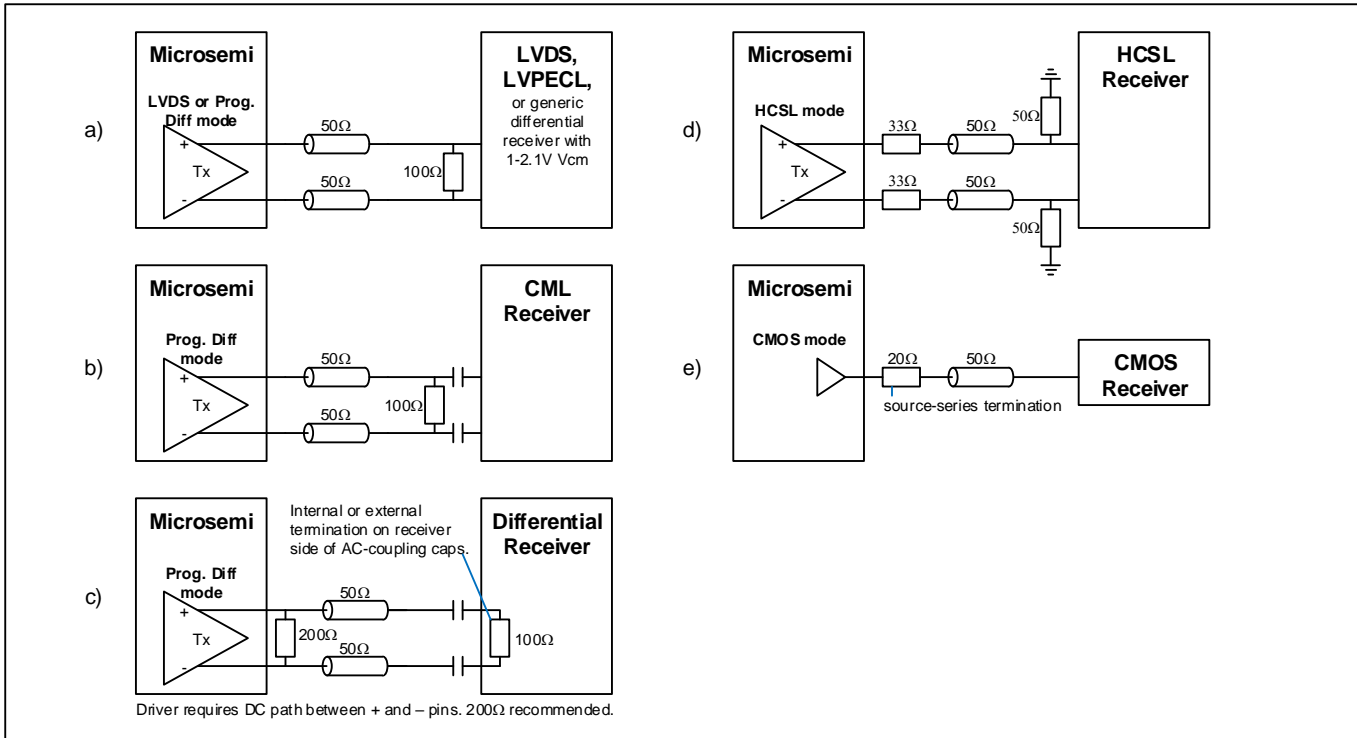

Figure 16 - Example External Components for Output Signals
**Note 1:** OCxCR2.OCsF=0001 (LVDS). Output must have 100Ω DC path between OUTxP and OUTxN to meet these  $V_{OD}$  specs. See Figure 16 parts a) and b) for examples where this DC path is a 100Ω termination resistor at the receiver
**Note 1:** OCxCR2.OCSF=0010, OCxDIFF.VCM=1100, OCxDIFF.VOD=0101. Output must have 100Ω DC path between OUTxP and OUTxN to meet these  $V_{\text{OD}}$  specs. See Figure 16 parts a) and b) for examples where this DC path is a 100Ω termination resistor at the receiver.
Figure 16 part c) covers the case where an existing receiver has AC coupling caps followed by an internal or external 100Ω termination resistor. The driver requires a DC path between its POS and NEG pins even in this case. A 200Ω resistor is recommended. Since this arrangement attenuates the signal by one third, The `OCxDIFF.VOD` field should be set 50% higher to compensate.